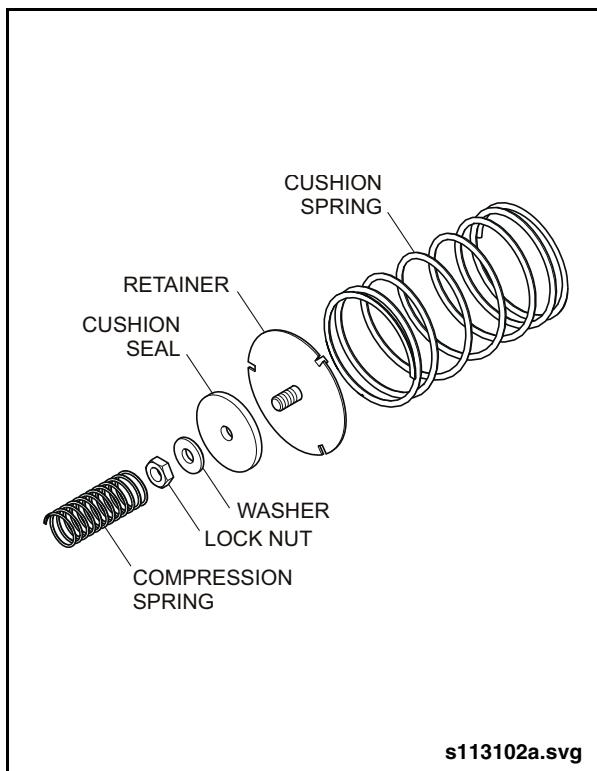

Fig. 16-10: Cushion Spring &amp; Seal
9. Remove the cushion seal from the cushion spring assembly by removing the lock nut, washer and the spring retainer. Discard the cushion seal. See "Fig. 16-10: Cushion Spring & Seal" on page 21.